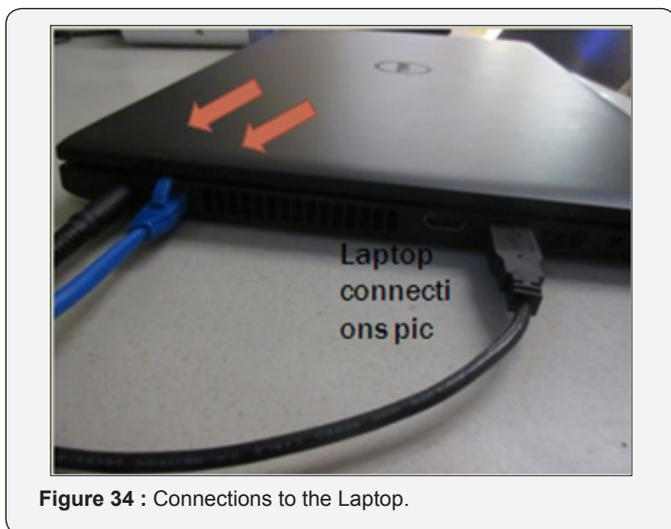

Figure 34 : Connections to the Laptop.
- ii. These are the laptop connections (Figure 34).